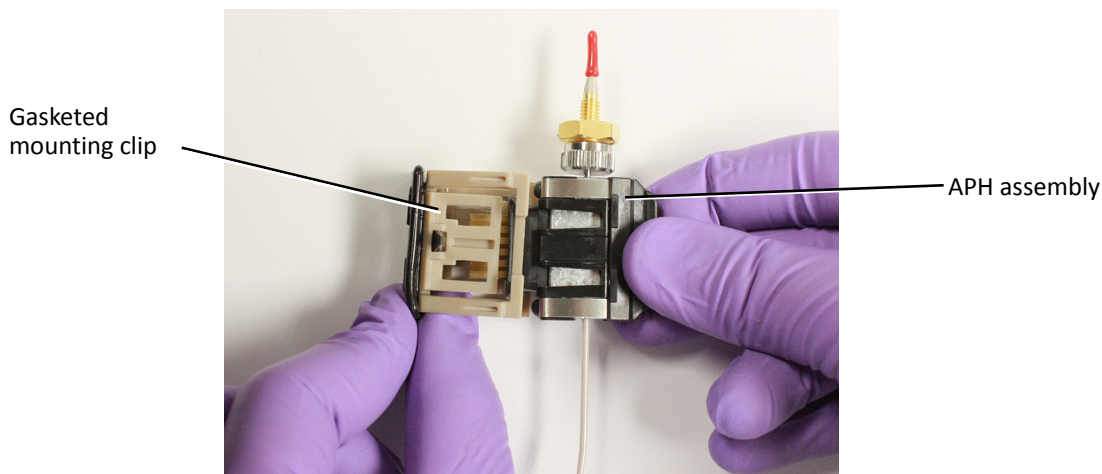

Figure 11 - Inserting the APH into the mounting clip
- d. Insert the APH assembly into the new, gasketed APH mounting clip (Figure 11).